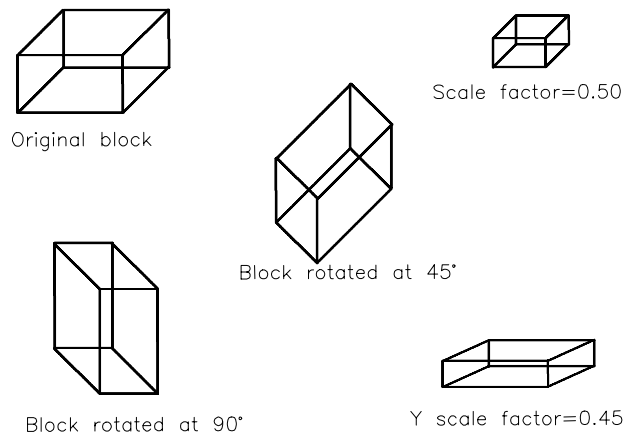

Figure 16-1 Blocks with different specifications
8. Blocks can have varying X, Y, and Z scale factors and rotation angles from one insertion to another (Figure 16-1).